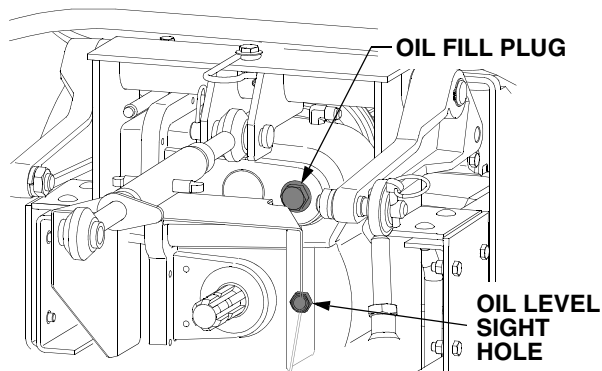

Figure 42
The oil level sight glass is located in the rear of the transmission housing, just to the right of the rear PTO shaft. Refer to Figure 42.
- Locate the oil fill plug on the upper right of the rear of the transmission housing. See Figure 42.
- Clean the area around the transmission fill plug to prevent debris from entering the transmission (Refer to Figure 42) and remove the plug.
- Clean the area around the transmission drain plug and the oil fill plug to prevent debris from entering the transmission. Refer to Figure 42 and Figure 44.
- Remove the oil fill plug to help vent the transmission, then remove the drain plug and allow the transmission oil to drain into the container(s). Reinstall the drain plug after draining the oil. Refer to Figure 42 and Figure 44.